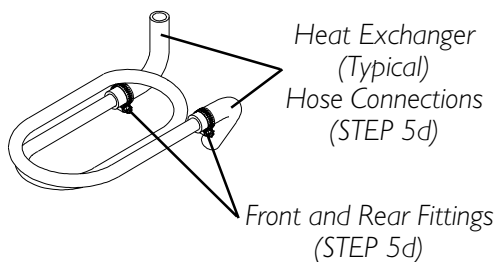

FIGURE 3 - HEAT EXCHANGER HOSES
- e) The front and rear fittings on heat exchanger. Refer to FIGURE 3.